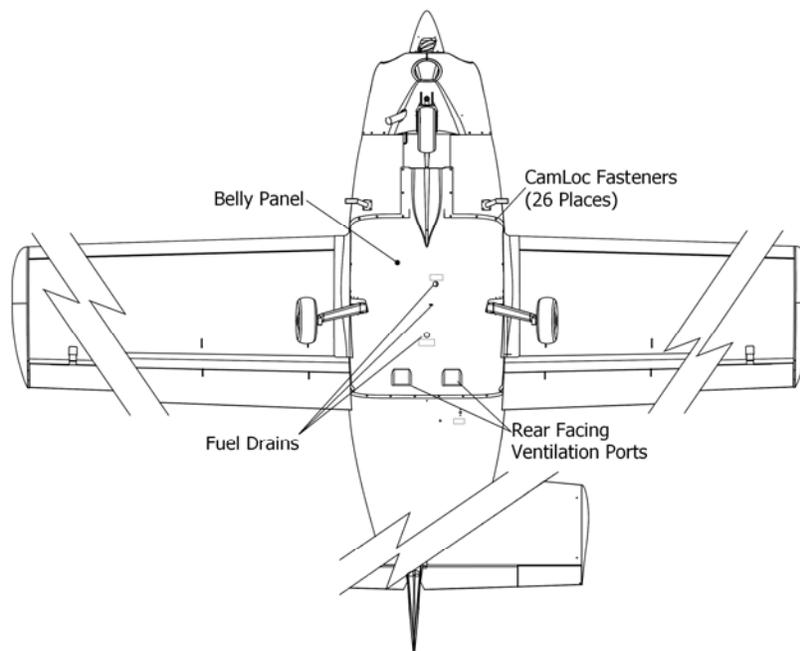
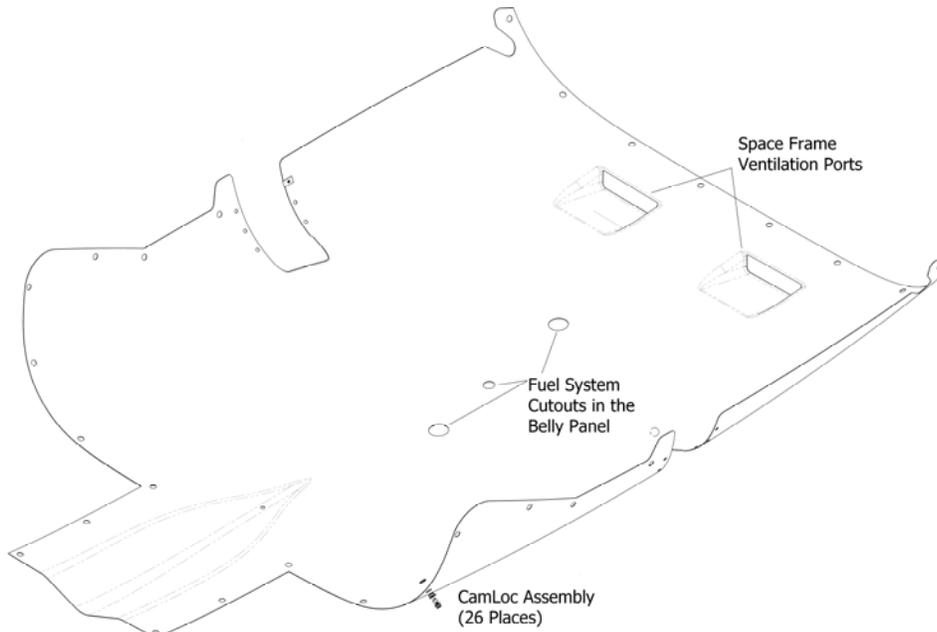

Figure 53-28 Underside of Airplane Showing the Belly Panel
Figure 53-29 Belly Panel
The belly panel attaches to the fuselage under the space frame assembly (rolling chassis) by means of a series of CAMLOC® fasteners. The belly panel has three (3) access holes for the gascolator, fuel boost pump assembly and fuel tank assembly (see Figure 53-28). Two (2) vapor zone hoods are integral design features of the current belly fairing assembly. Two cutouts on port and starboard side of the belly fairing are for the installation of under carriage cover for main gear legs as shown in Figure 53-29.